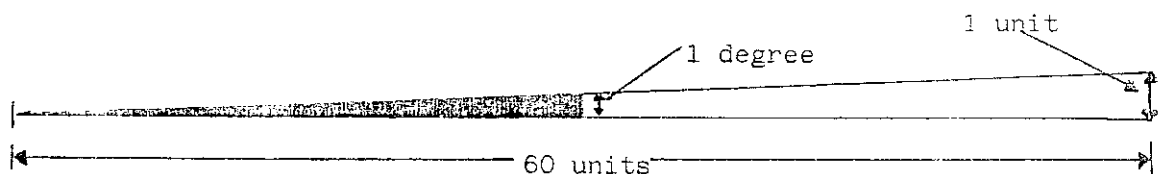

Fig 21.3 The 1-in-60 rule
* With a distance of 60 units, each unit at right angles will subtend an angle of 1° (Fig 21.3).